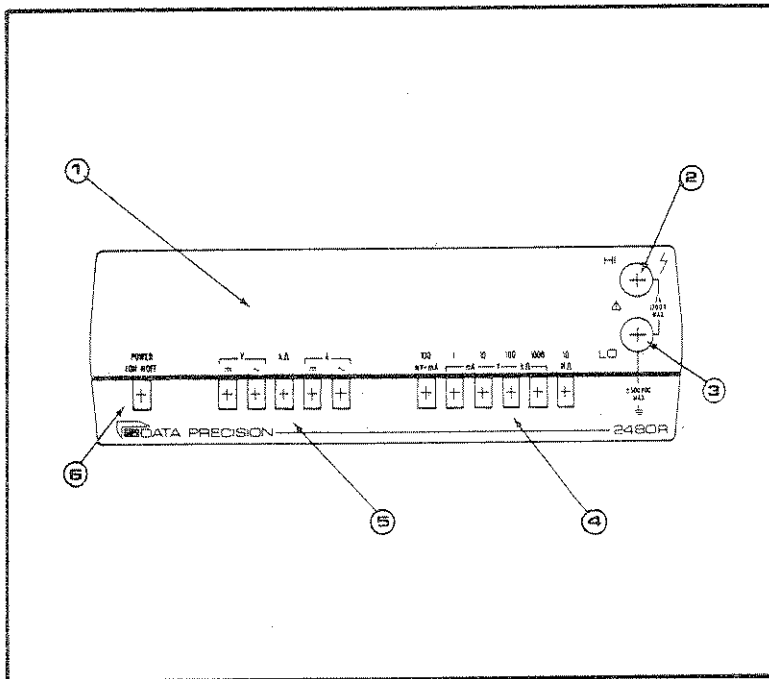

Figure 2-2 — Model 2480/2480R DMM Front Panel Features
Figure 2-2 and Table 2-1 identify and describe operating features at the front panel of the standard Model 2480/2480R Digital Multimeter.
Table 2-1 (Figure 2-2)
b. Turn on power by operating the switch (Figure 2-2, item 6).
- c. Input terminals (Figure 2-2, Items 2 and 3) are used as the front panel connector pair to measure voltages up to 1000 volts, currents up to 2 amperes and resistances up to 20 Megohms.
Select one of 8 measuring functions by operating the appropriate push button (Figure 2-2, Item 5). The push buttons are interlocked so that operating any one will release any other one.